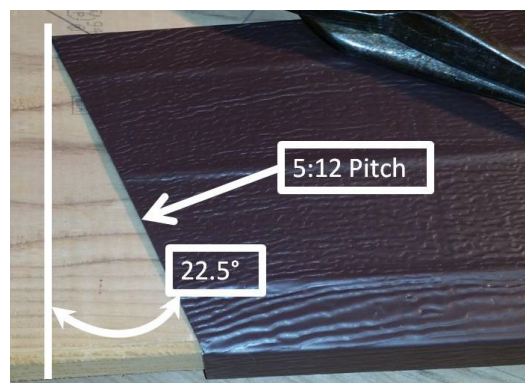

Figure 11-20. Gable Peak Front Side Fascia.
16. Measure from the end of the lower fascia piece to the peak and add 1½”. Measure this distance from the appropriate factory edge and mark the top edge. Align the speed square 90° corner with this mark to mark and cut the necessary angle. See Figure 11-20 for the right-hand peak end cut.